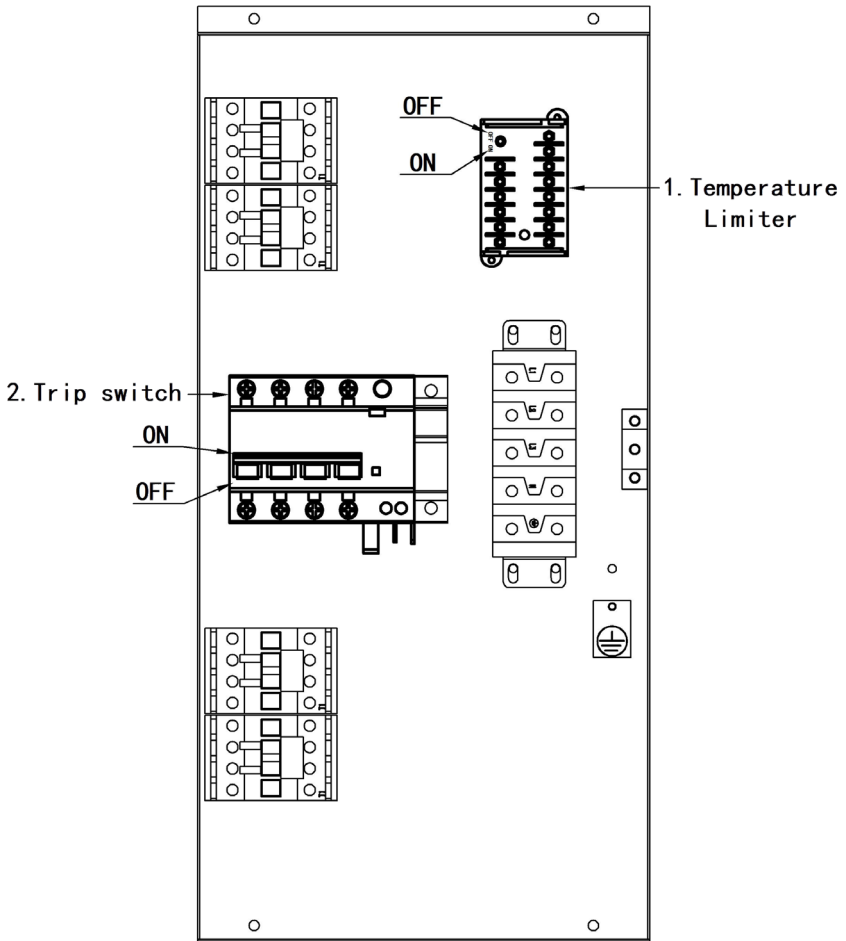

Figure 1: Restoration of Abnormal Temperature Protection
- To resume from Abnormal Temperature Protection, first cut off the external power supply of the oven (make sure to turn off the power supply of the oven and the external connection, and ensure that the oven is not energized), the open the electrical box and turn on the trip switch (see figure 1), and the oven will resume to the Ready-to-Work State.